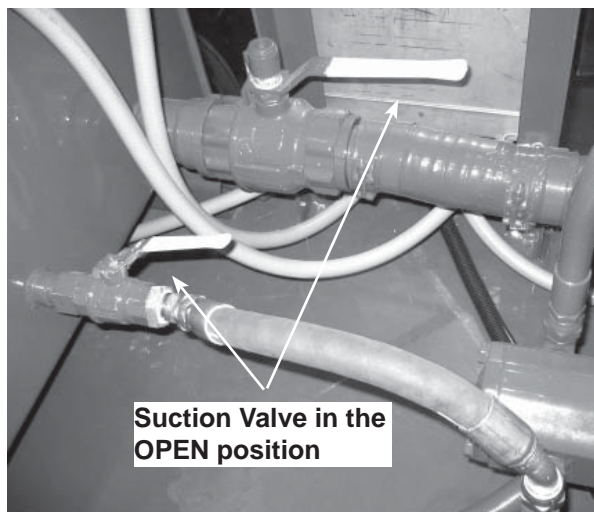

Figure 6 - Suction Valve
**IMPORTANT:** Open up suction valves (see Figure 6 page 4) so the hydraulic pump is flooded with oil before turning on the motor (see Prime Pump section page 4).